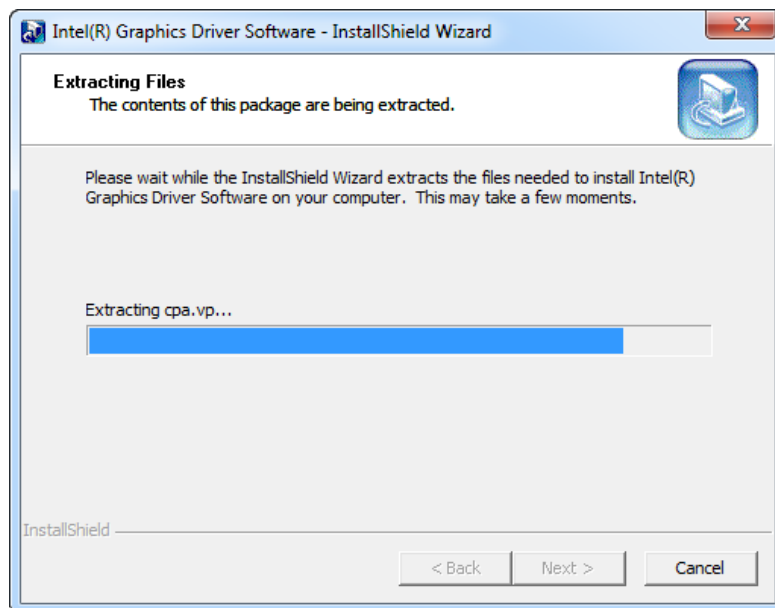

Figure 8-9: Graphics Driver Setup Files Extracted
Step 6: The installation files are extracted. See Figure 8-9.